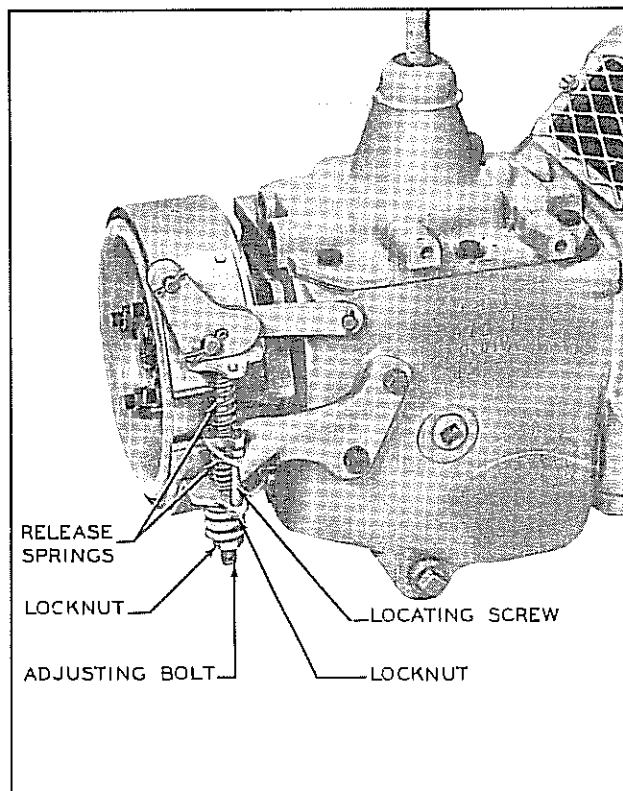

Figure 11. Hand Brake Lever Adjustment
- a. Set hand brake lever in fully released position and turn knob adjustment counterclockwise as far as possible. See figure 11.